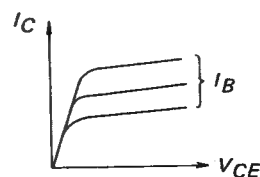

Fig. 11
- The characteristics of this drive transistor are indicated in Fig. 11. The variation of collector current I_C relative to collector-emitter voltage V_{CE} is not sinusoidal, but produces a square wave that causes unnecessary vibration in the motor.